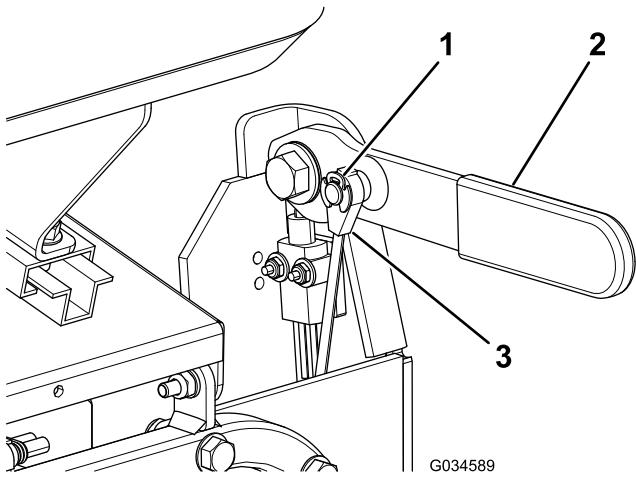

Figure 1
3. Remove the retaining ring securing the cable end to the post on the parking-brake lever, and remove the cable end from the post (Figure 1).